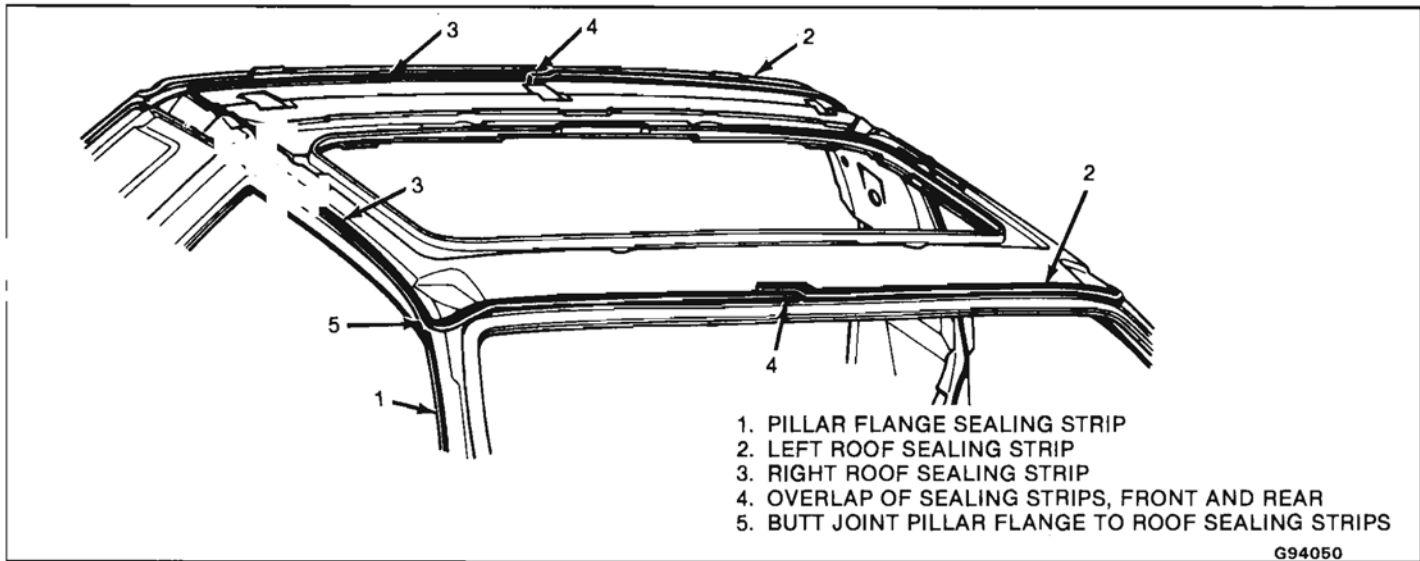

Fig. 10-Sealing Locations
10) 1 be corrected by resealing. Attaching points of spray replacement pane' should be resealed (Fig. 10).